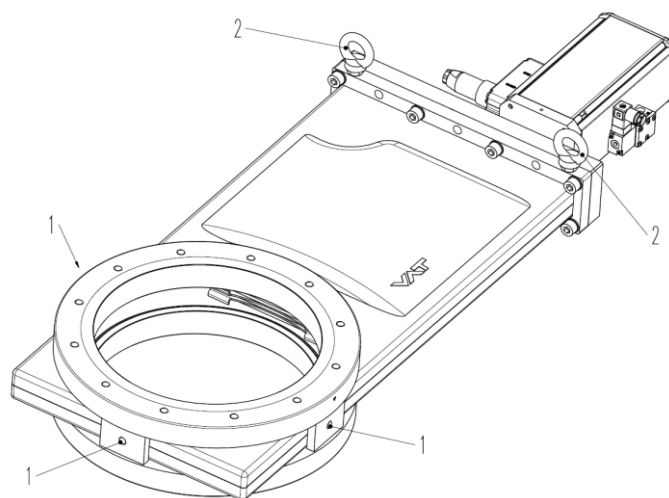

Figure 4-1
1. Screw eyebolts into two of the threads (1) and fasten lifting ropes to the eyebolts; see «Figure 4-1».